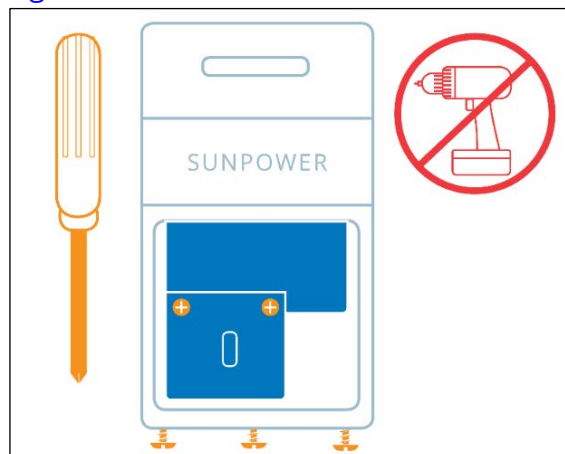

Fig. 29
- Loosen the three screws on the bottom of the PVS5x enclosure and remove the cover (Fig. 29).
- Remove the lower AC wiring cover (Fig. 29).
- Remove the upper AC wiring cover (Fig. 29).